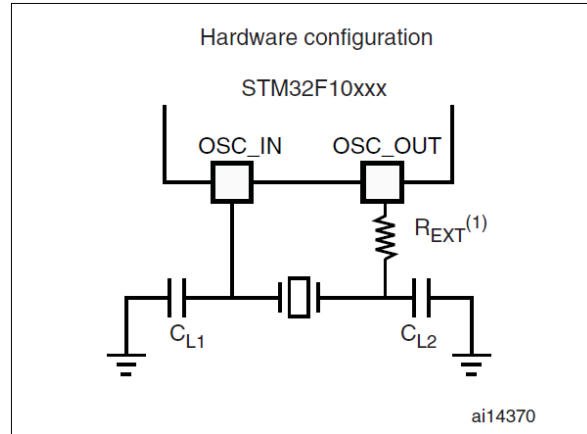

Figure 5. Crystal/ceramic resonators
- HSE external crystal/ceramic resonator (Figure 5)